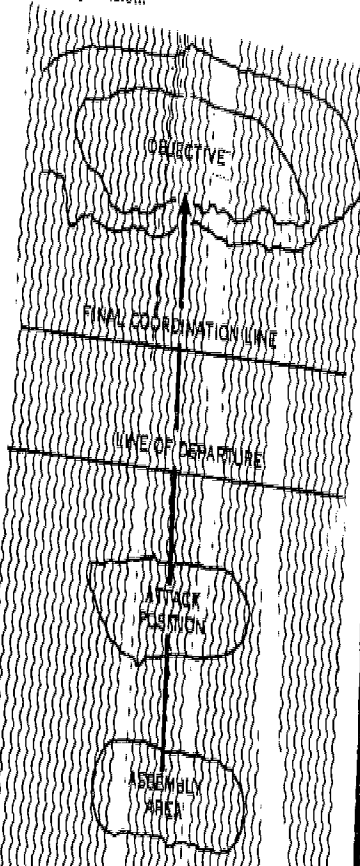

Figure 11. Control measures used during a daylight attack.
Control measures used during a daylight attack are graphically represented in figure 11.
(2) Select an aiming point (tree, bush, etc.) that is approximately 150 feet from the mine and which projects up approximately 2 feet above the ground (fig. 11). This is approximately 2 1/2 meters at a distance of 80 meters. Position the eye approximately 1 foot (30 cm) away from the mine and aim the mine by sighting through the deepwell. The groove of the sight